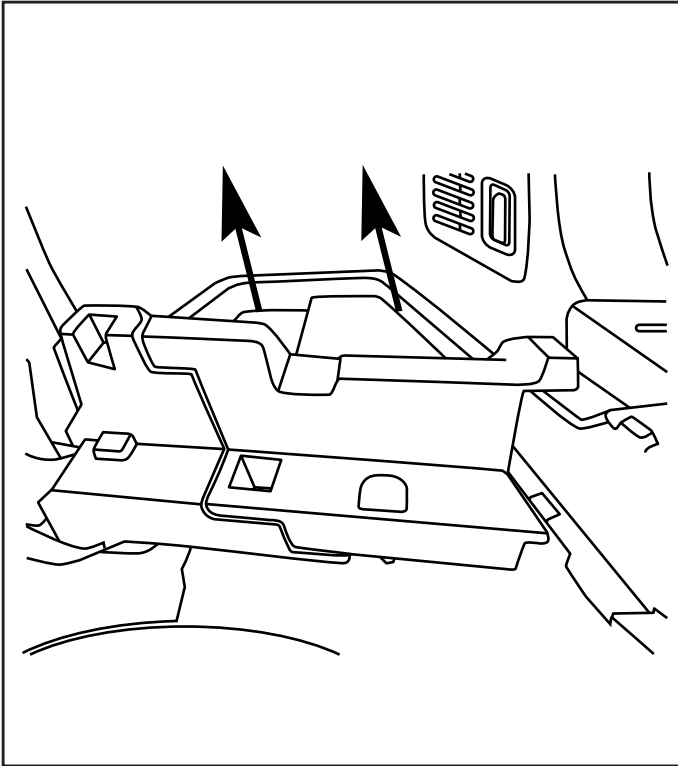

Fig. 8
9. Remove the lower tray (Fig. 8).